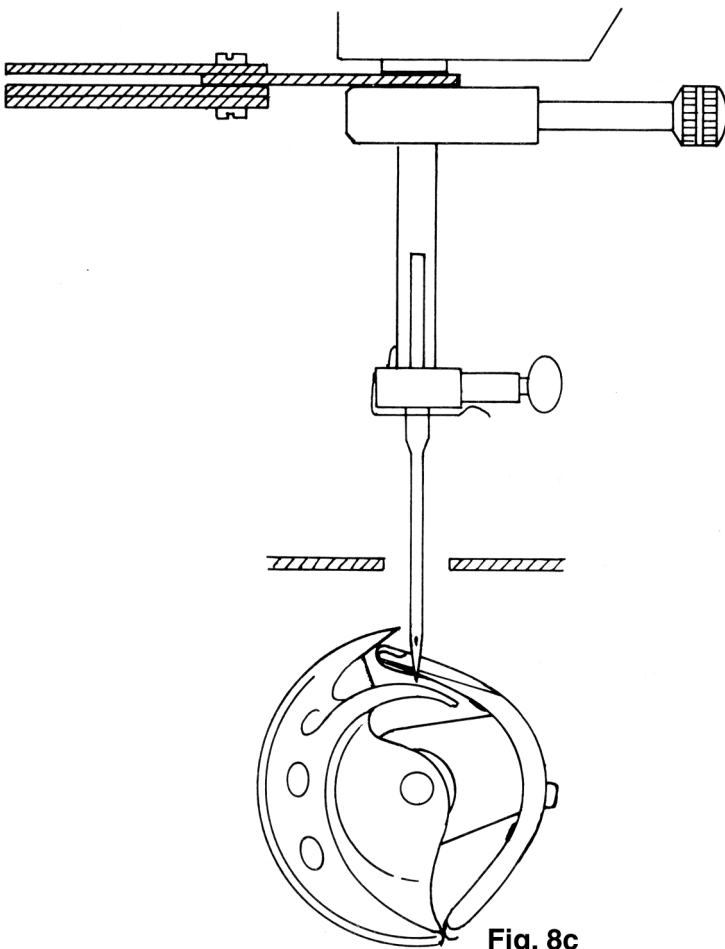

Fig. 8c
- Bring the needle bar to its lowest position by turning the handwheel (fig. 8c).